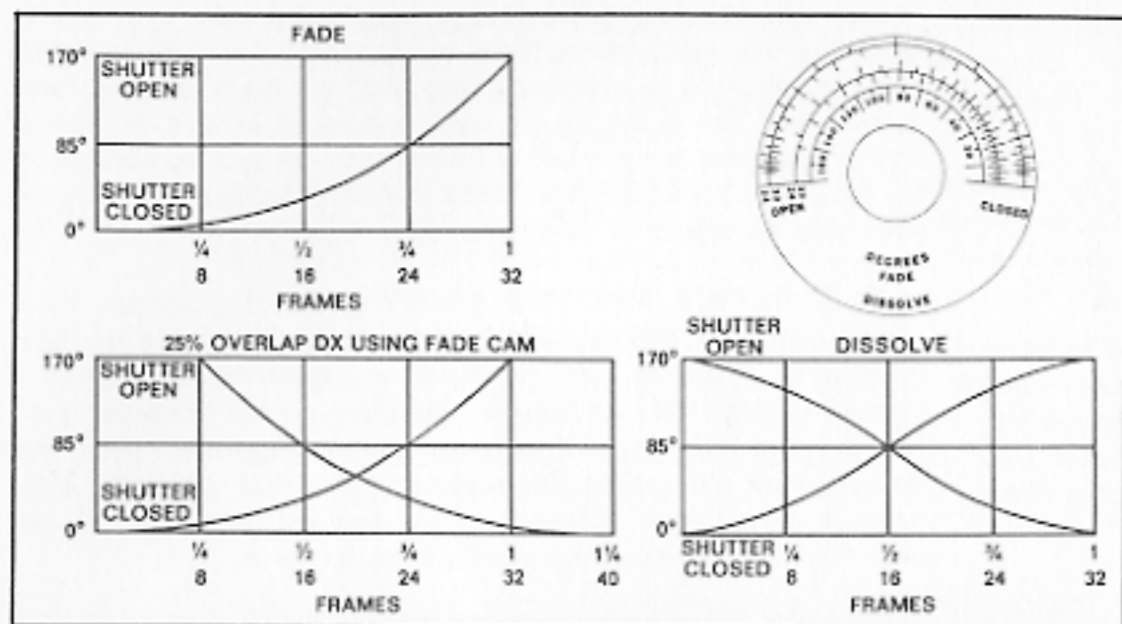

figure 18. Density variations resulting from use of camera fade and dissolve scale.
3.1.2 *Fades*: Fades may be made by selectively using the auxiliary shutter when exposing each frame. When making fades the mode selector must be set at "S.M." (Stop Motion) and kept there until the fade is complete. The scale for the fade is marked 24 and 32. These figures represent the number of frames that will be incorporated in the fade when an exposure is made at each cross line on the scale from open to closed or vice versa. (See Fig. 18).